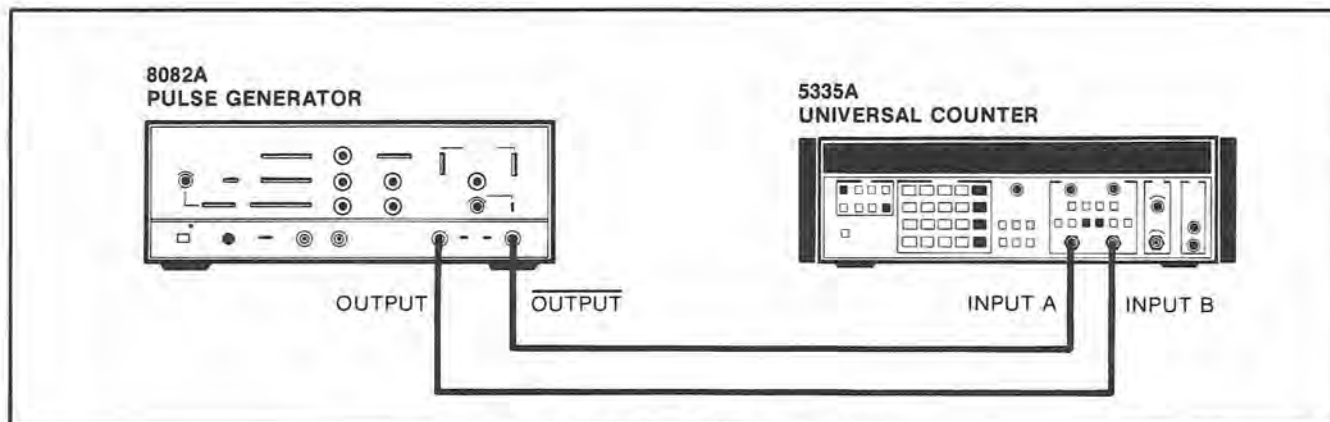

Figure 4-17. Phase A rel B Test Set-Up
b. Connect the 8082A Pulse Generator to the 5335A INPUT A and B as shown in Figure 4-17.